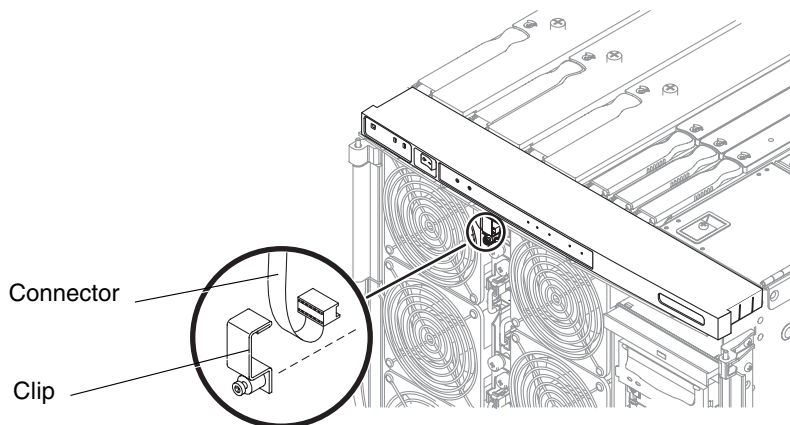

FIGURE 7-8 Replacing the System Indicator Board Connector Retaining Clip
7. Connect the system indicator board connector to the receptacle at the top of the fan tray. Replace the retaining clip (FIGURE 7-8).